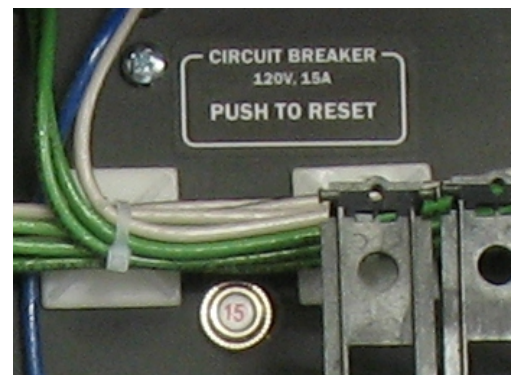

Figure 8.2 Auxiliary Power Breaker Switch (all models except 4301-60)
3. Open the rear door of the cabinet and inspect the Auxiliary Power Breaker Switch located above and to the left of the Wiring Block (or on the outside of the wiring panel on 4301-60 models), as shown in **Figures 8.2 and 8.3**. If the circuit breaker is tripped, push to reset.